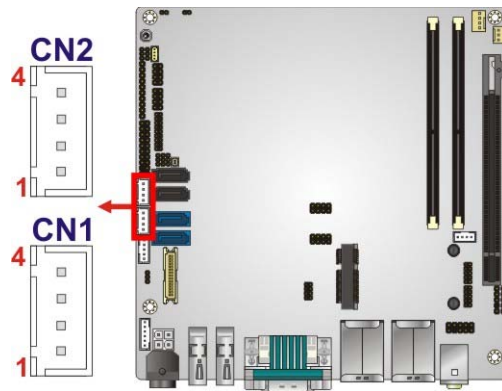

Figure 3-21: SATA Power Connector Locations
- CN Location:** See **Figure 3-21**